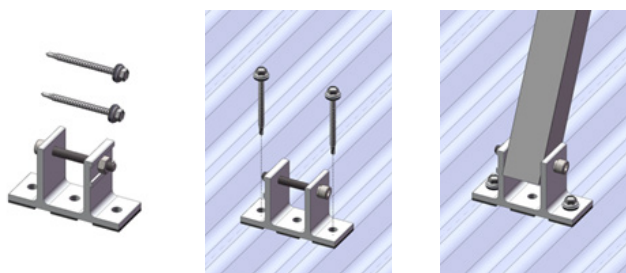

Figure 5
1. Two screws shall be installed through two side holes of rear leg (as shown in Figures 5 and 7);